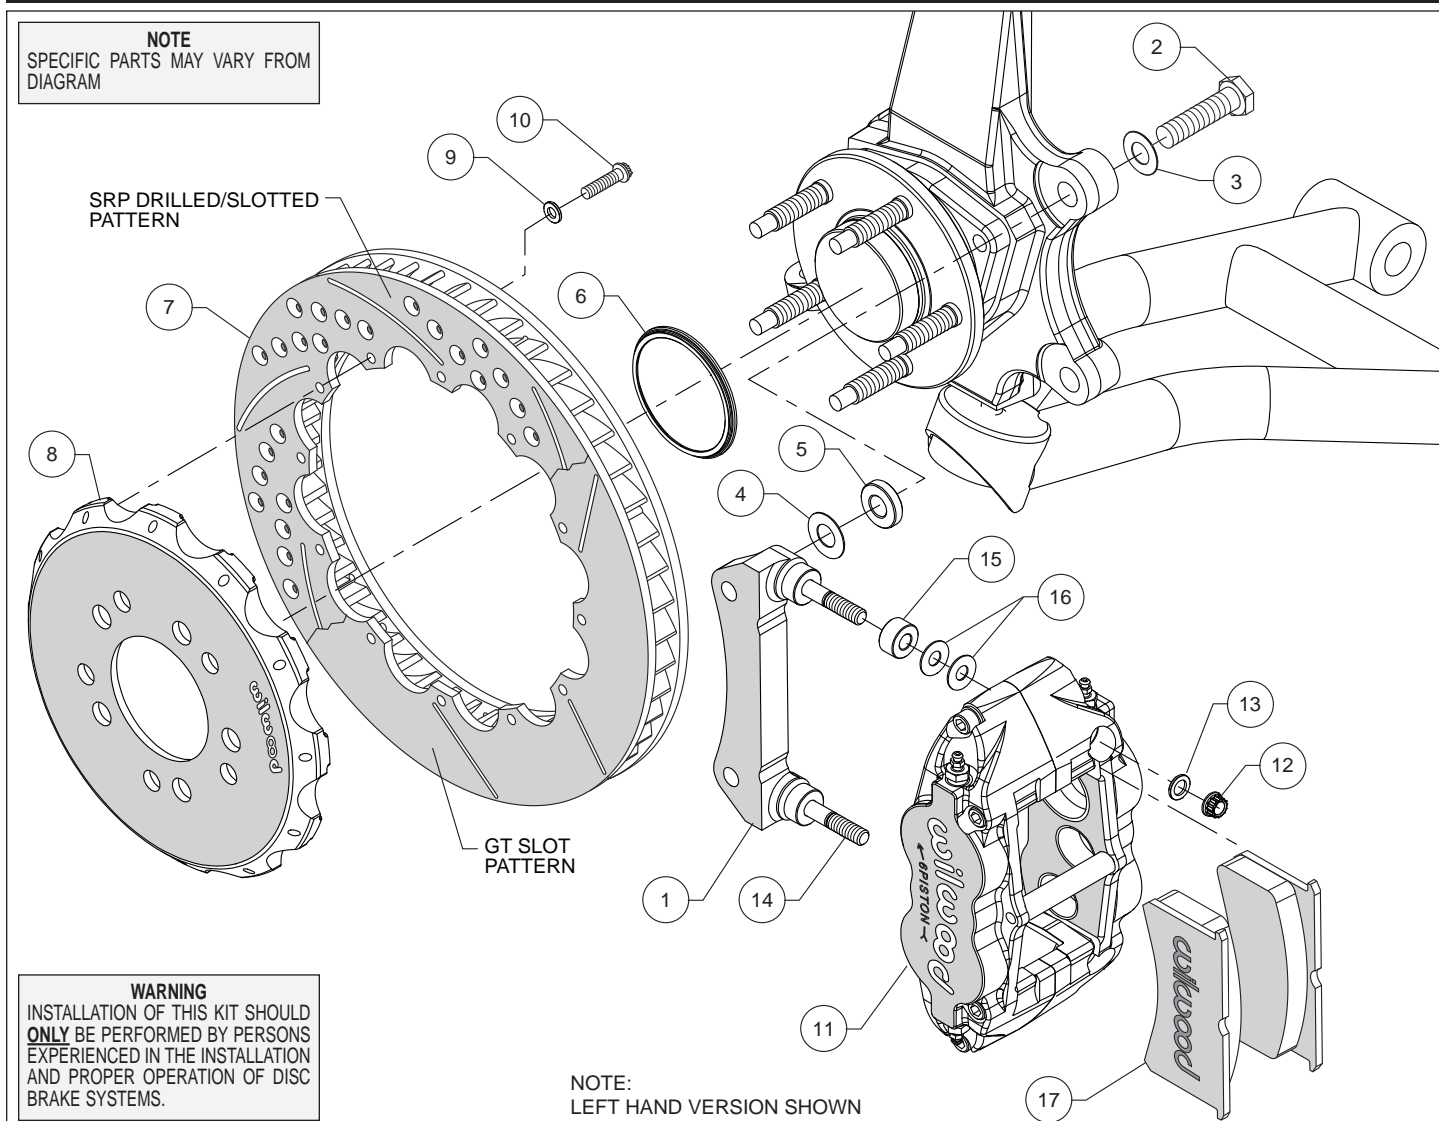
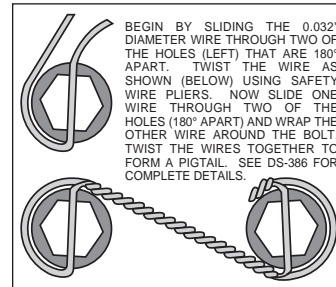

Figure 1. Typical Installation Configuration
Figure 3. Safety Wire Diagram
Assembly Instructions (numbers in parenthesis refer to the parts list and Figure 1 on the preceding pages):
- The caliper mount bracket (1) should initially be installed with clean, dry threads on the mounting bolts. Orient the bracket as shown in Figure 1, and install using bolts (2) and washers (3). Initially place one .033 thick shim (4) and spacer (5) on each bolt between the bracket and upright, Figure 1. Temporarily tighten the mounting bolts. **NOTE:** *The bracket must fit squarely against the mount bosses on the upright.* Inspect for interference from casting irregularities, machining ridges, burrs, etc. Later, after the caliper alignment has been checked, the mount bolts will be secured using red *Loctite*[®] 271.
- Orient the rotor (7) and the hat (8) as shown in Figure 1 and Photo 1. Attach rotor to hat using bolts (10) and washers (9). Using an alternating sequence, apply red *Loctite*[®] 271 to the threads, and torque to 155 **in-lbs**. For an added measure of security, the bolts may be safety wired using standard 0.032 inch diameter stainless steel safety wire as shown in Figure 3. Please refer to Wilwood's data sheet DS-386 (available at www.wilwood.com/Pdf/DataSheets/ds386.pdf) for complete safety wire installation instructions.
- Slide the rotor registration adapter (6) onto the axle register on the hub assembly with the smaller O.D. facing outward, Photo 2. Slide the hat/rotor assembly (7/8) onto the hub assembly. **NOTE:** *The hat must fit flush against the hub flange or excessive rotor run out may result.* Install three lug nuts (finger tight) to keep the hat/rotor assembly in place while continuing with the installation.
- NOTE:** *This kit contains distinct right and left hand calipers that must be mounted in a specific direction, as described below.* Lubricate the caliper mounting studs (14) with lightweight oil. Initially place two .035" thick shims (16), and spacer (15) on each stud as shown in Figure 1 and Photo 3. Mount the caliper (11) onto the bracket (1) using lock nuts (12) and washers (13), Figure 1. Ensure that the caliper is mounted so that the largest pistons are at the rotor exit end of the caliper, in relation to the direction of rotor rotation. Temporarily tighten the lock nuts and view the rotor through the top opening of the caliper. The rotor should be centered in the caliper, Photo 4. If not, adjust by adding or subtracting shims (4) between the bracket and the upright. Always use the same amount of shims on each of the two mounting bolts. Once the caliper alignment is correct, remove the bracket mounting bolts (2) one at a time, apply red *Loctite*[®] 271 to the threads, and torque to 77 ft-lb.